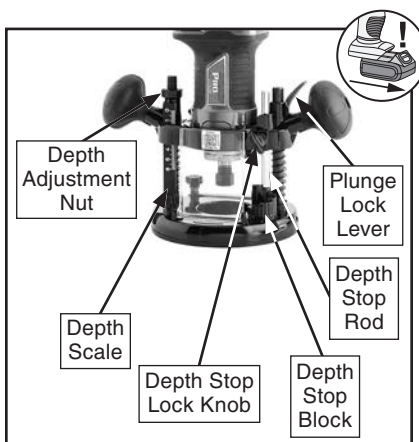

Figure 13. Plunge base height adjustment components.
2. Loosen depth stop lock knob (see **Figure 13**).
3. Place router on a flat surface and loosen plunge lock lever (see **Figure 13**).